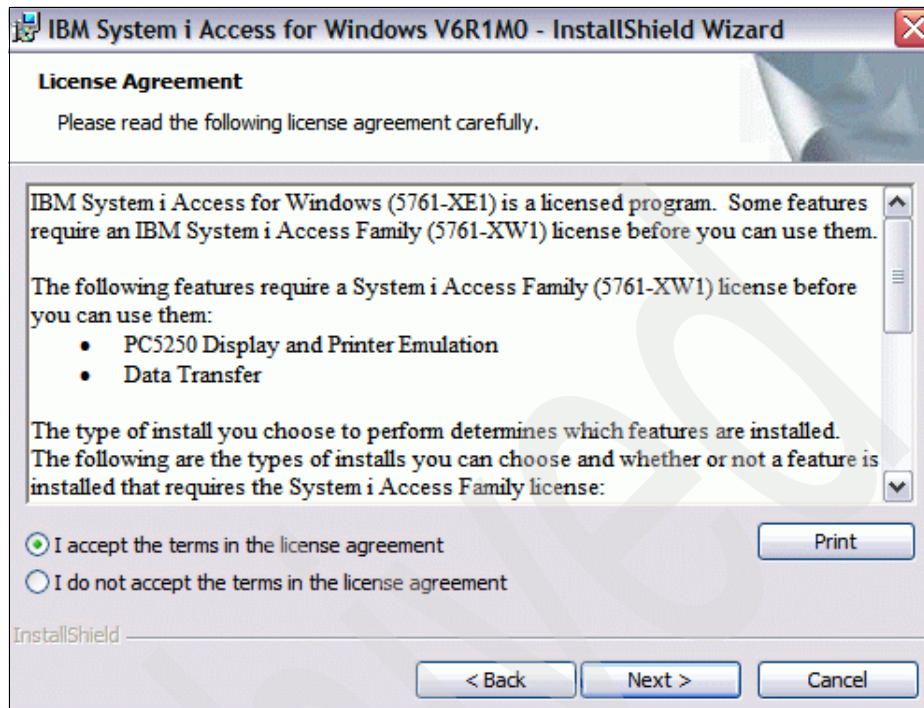

Figure 5-11 IBM System i Access for Windows Licence Agreement
3. The License Agreement shown in Figure 5-11 on page 228 appears. You can select **I accept the terms in the license agreement**. Click **Next>** to continue.